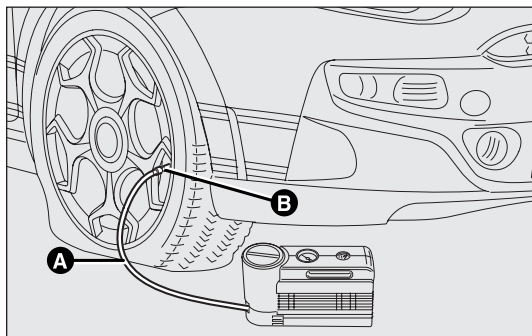

fig. 129
- ☐ Apply the handbrake. Unscrew the tyre valve cap, take out the transparent flexible filler tube A-fig. 129 and tighten the ring nut B on the tyre valve;